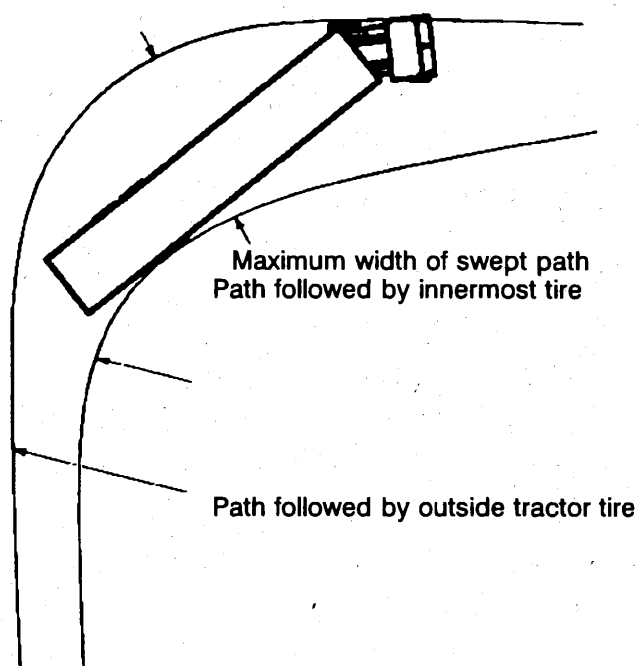
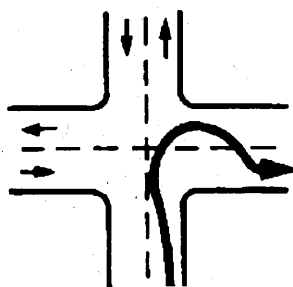

Figure 6-4
Figure 6-5
When a vehicle goes around a corner, the rear wheels follow a different path than the front wheels. This is called **offtracking** or "cheating." Figure 6-4 shows how offtracking causes the path followed by a tractor-semi to be wider than the rig itself. Longer vehicles will offtrack more. The rear wheels of the powered unit (truck or tractor) will offtrack some, and the rear wheels of the trailer will offtrack even more. If there is more than one trailer, the rear wheels of the last trailer will offtrack the most. Steer the front end wide enough around a corner so the rear end does not run over the curb, pedestrians, other vehicles, etc. However, keep the rear of your vehicle close to the curb. This will stop other drivers from passing you on the right. This will stop other drivers from passing you on the right. If you cannot complete your turn without entering another traffic lane, turn wide as you **complete the turn** (Figure 6.5). This is better than swinging wide to the left before starting the turn because it will keep other drivers from passing you on the right. If drivers pass on the right, you might collide with them when you turn.
5. Why should you turn like it shows in Figure 6-5?